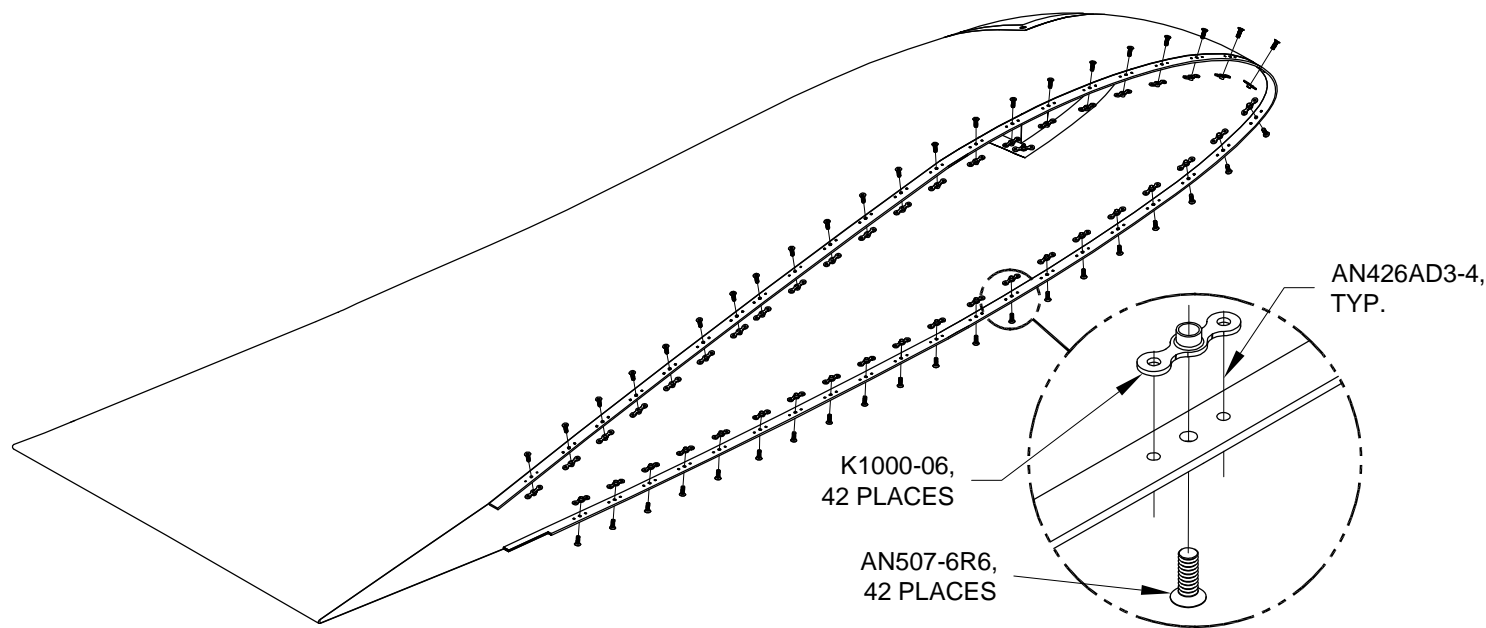

FIGURE 1: NUTPLATE ATTACH
Step 4: Final-Drill the screw attach holes in the **W-1015-L** Wing Tip to #28. Match-drill #40 the nutplate attach pattern into the **W-1015-L** Wing Tip using a nutplate as a drill guide. Use a screw to position the nutplate in each hole, this will keep the nutplates aligned and will minimize puckering of the wing skins between attach the fasteners when the wing tip is secured to the wing. Machine countersink the nutplate attach holes for the head of an AN426AD3 rivet. Rivet the nutplates to the wing tip as shown in Figure 1. Machine countersink the screw holes in the tip for the corresponding dimple in the wing skin.